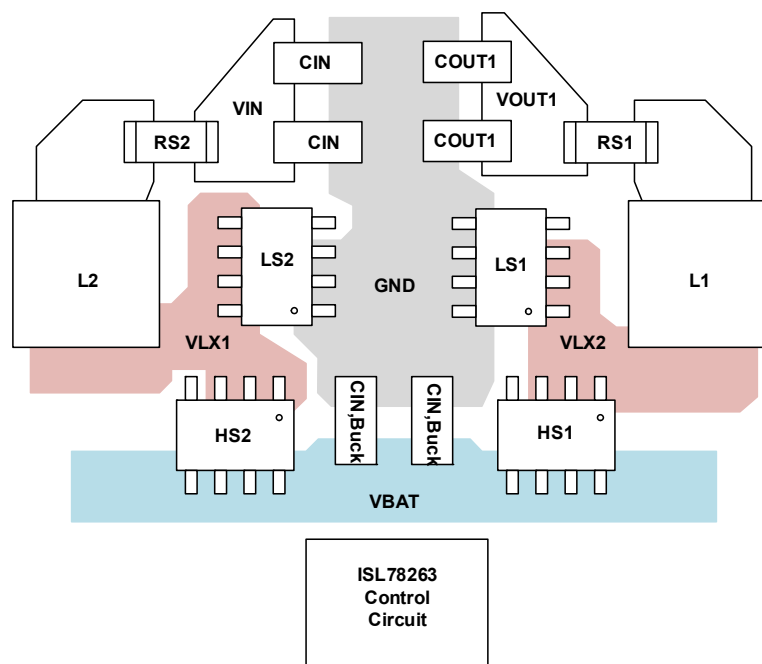

Figure 29. PCB Layout Illustrating Power Component Placement
The following layout instructions see Figures 29 and 30 as noted.
1. In Figure 29, connect the common connection between input capacitors, output capacitors, and the low-side FET for each buck converter through the central ground (gray) area.